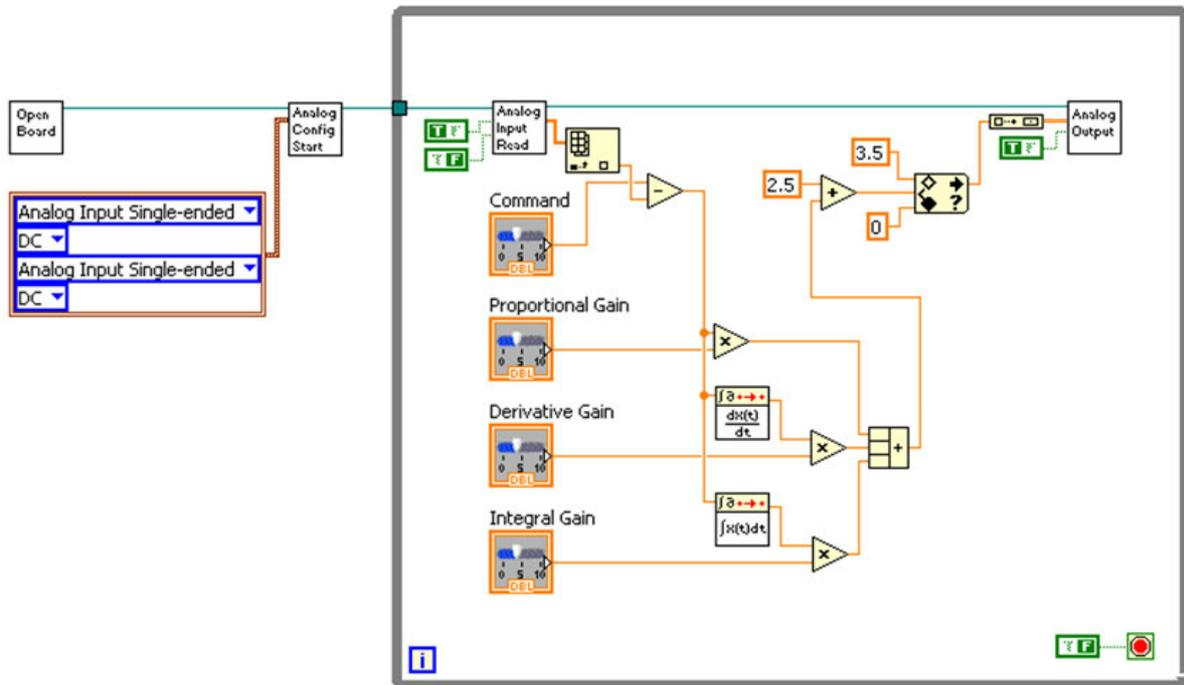

Figure 15 - Full PID Control
Thus, we have created a basic proportional control. However, this system will only work well for certain motors at certain proportional gains. If the proportional gain is set too high, the motor will likely overshoot the desired angle and then oscillate around it without ever stopping. If the proportional gain is too low, the motor will approach but never reach the desired angle. One way to deal with this problem is to create a proportional-derivative (PD) or full-blown proportional-integral-derivative (PID) controller. It’s actually quite simple to create, but tuning the gains of such a controller may require significant time and patience. Here are the blocks you’ll need to arrange as shown in Figure 15: